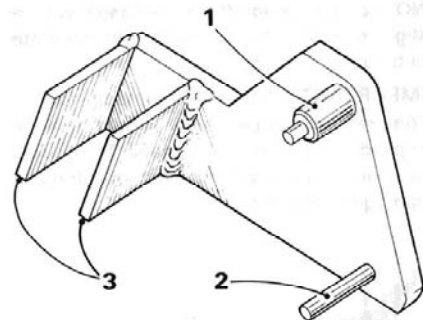
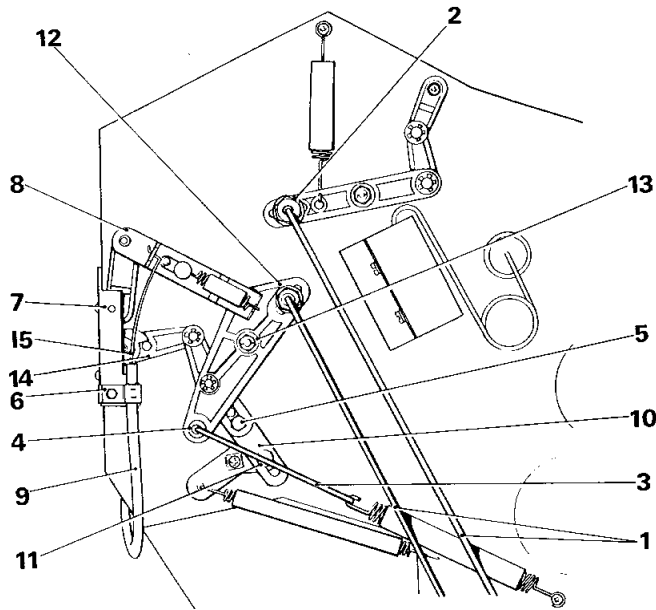

Fig 64
Fig 66
**Service Tools:** 18G 1363, Setting Jig (Fig. 64)
Disconnect the linkage rods (1, Fig. 66) from the servo lever connections.
Set the link bolt adjuster (2, Fig. 66) in its mid position.
Gently pull the wire link (3, Fig. 66) to detach it from the grommet in link (4, Fig. 66).
Using the jig setting tool 18G 1363, locate peg (1, Fig. 64) into the hole (7, Fig. 66) on the linkage protection bracket, and peg (2, Fig. 64) in the hole in linkage (4, Fig. 66), from which link (3, Fig. 66) was removed. The parallel end guides on the setting jig tool (3, Fig. 64), should locate over the linkage assembly (8, Fig. 66) so that the linkage is in a straight line. If linkage (8, Fig. 66) is not in line adjust the distribution temperature control cable (9, Fig. 66), until the linkage is straight. Tighten the cable clamp (6, Fig. 66).
With the jig setting tool in position adjust the linkage (10, Fig. 66) until post (11, Fig. 66) is at the top of the slot.
Position the setbolt adjuster (12, Fig. 66) at its furthest point away from fulcrum (13, Fig. 66). Refit the link rod (3, Fig. 66) to linkage (4, Fig. 66).
Reconnect the servo linkage rods (1, Fig. 66) to the servo motor levers, ensure that the servo lever cam followers locate against the servo cams.
Check that the linkage (14, Fig. 66) abuts against the snail cam (15, Fig. 66).
If there is movement, switch on the ignition and motor the system to its full heat position, switch off the ignition. Slacken the set bolt adjuster (12, Fig. 66) and move it slightly towards the fulcrum point (13, Fig. 66). Reset the servo lever linkage rods (1, Fig. 66) so that the servo lever cam followers locate against the servo cam.
Switch on the ignition and motor the system to its full cooling position (AUTO 65). Check that linkage (14, Fig. 66) abuts against the snail cam (15, Fig. 66). Check manually by pressing the snail cam, if movement is evident, repeat the procedure in the previous paragraph.